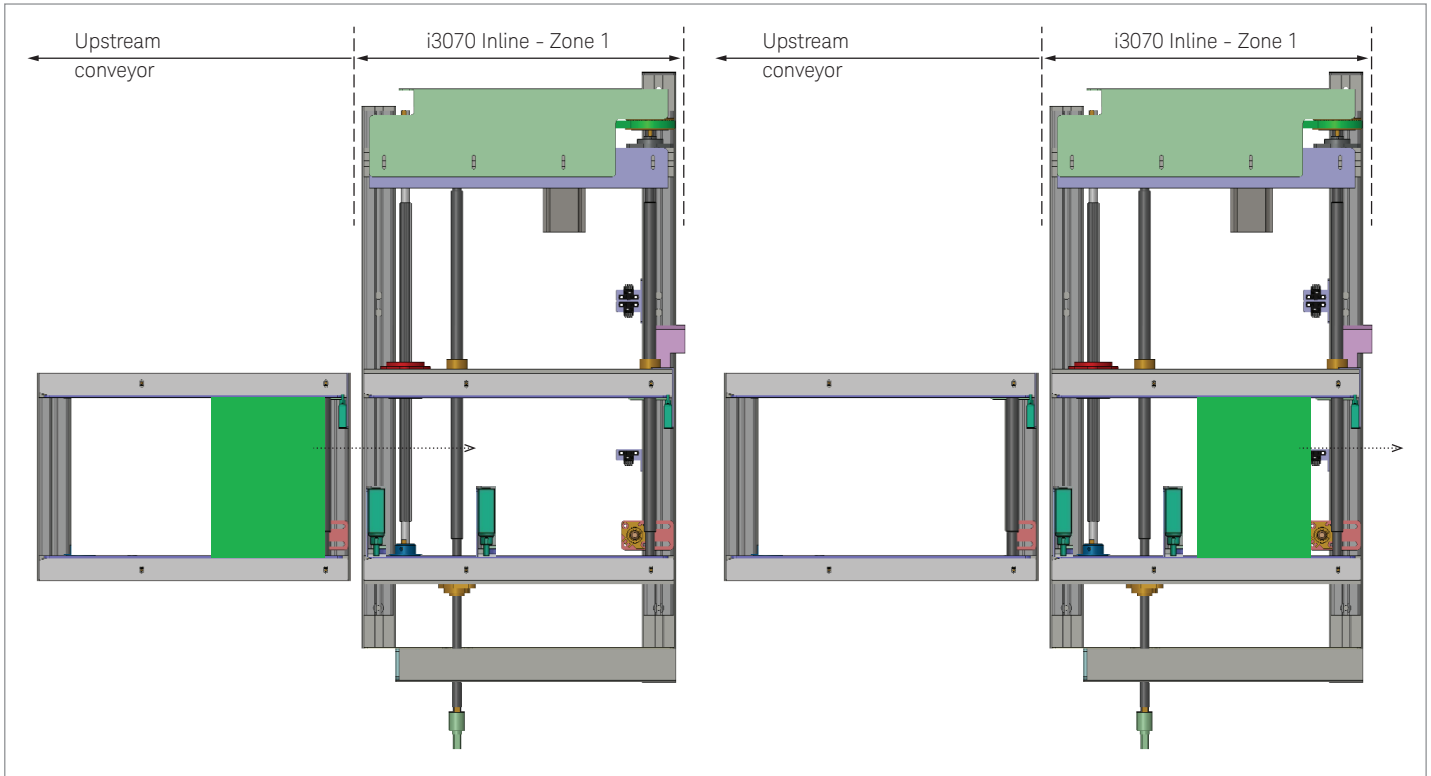

Figure 2. Normal board flow situation (plan view)
1. A normal board flow situation is shown in Figure 2 below. A PCBA from the upstream conveyor enters the ICT system. In this situation, the sensor is not triggered as the tailgating sensor does not detect any tailgating board. Hence, it proceeds to Zone 2 for testing.